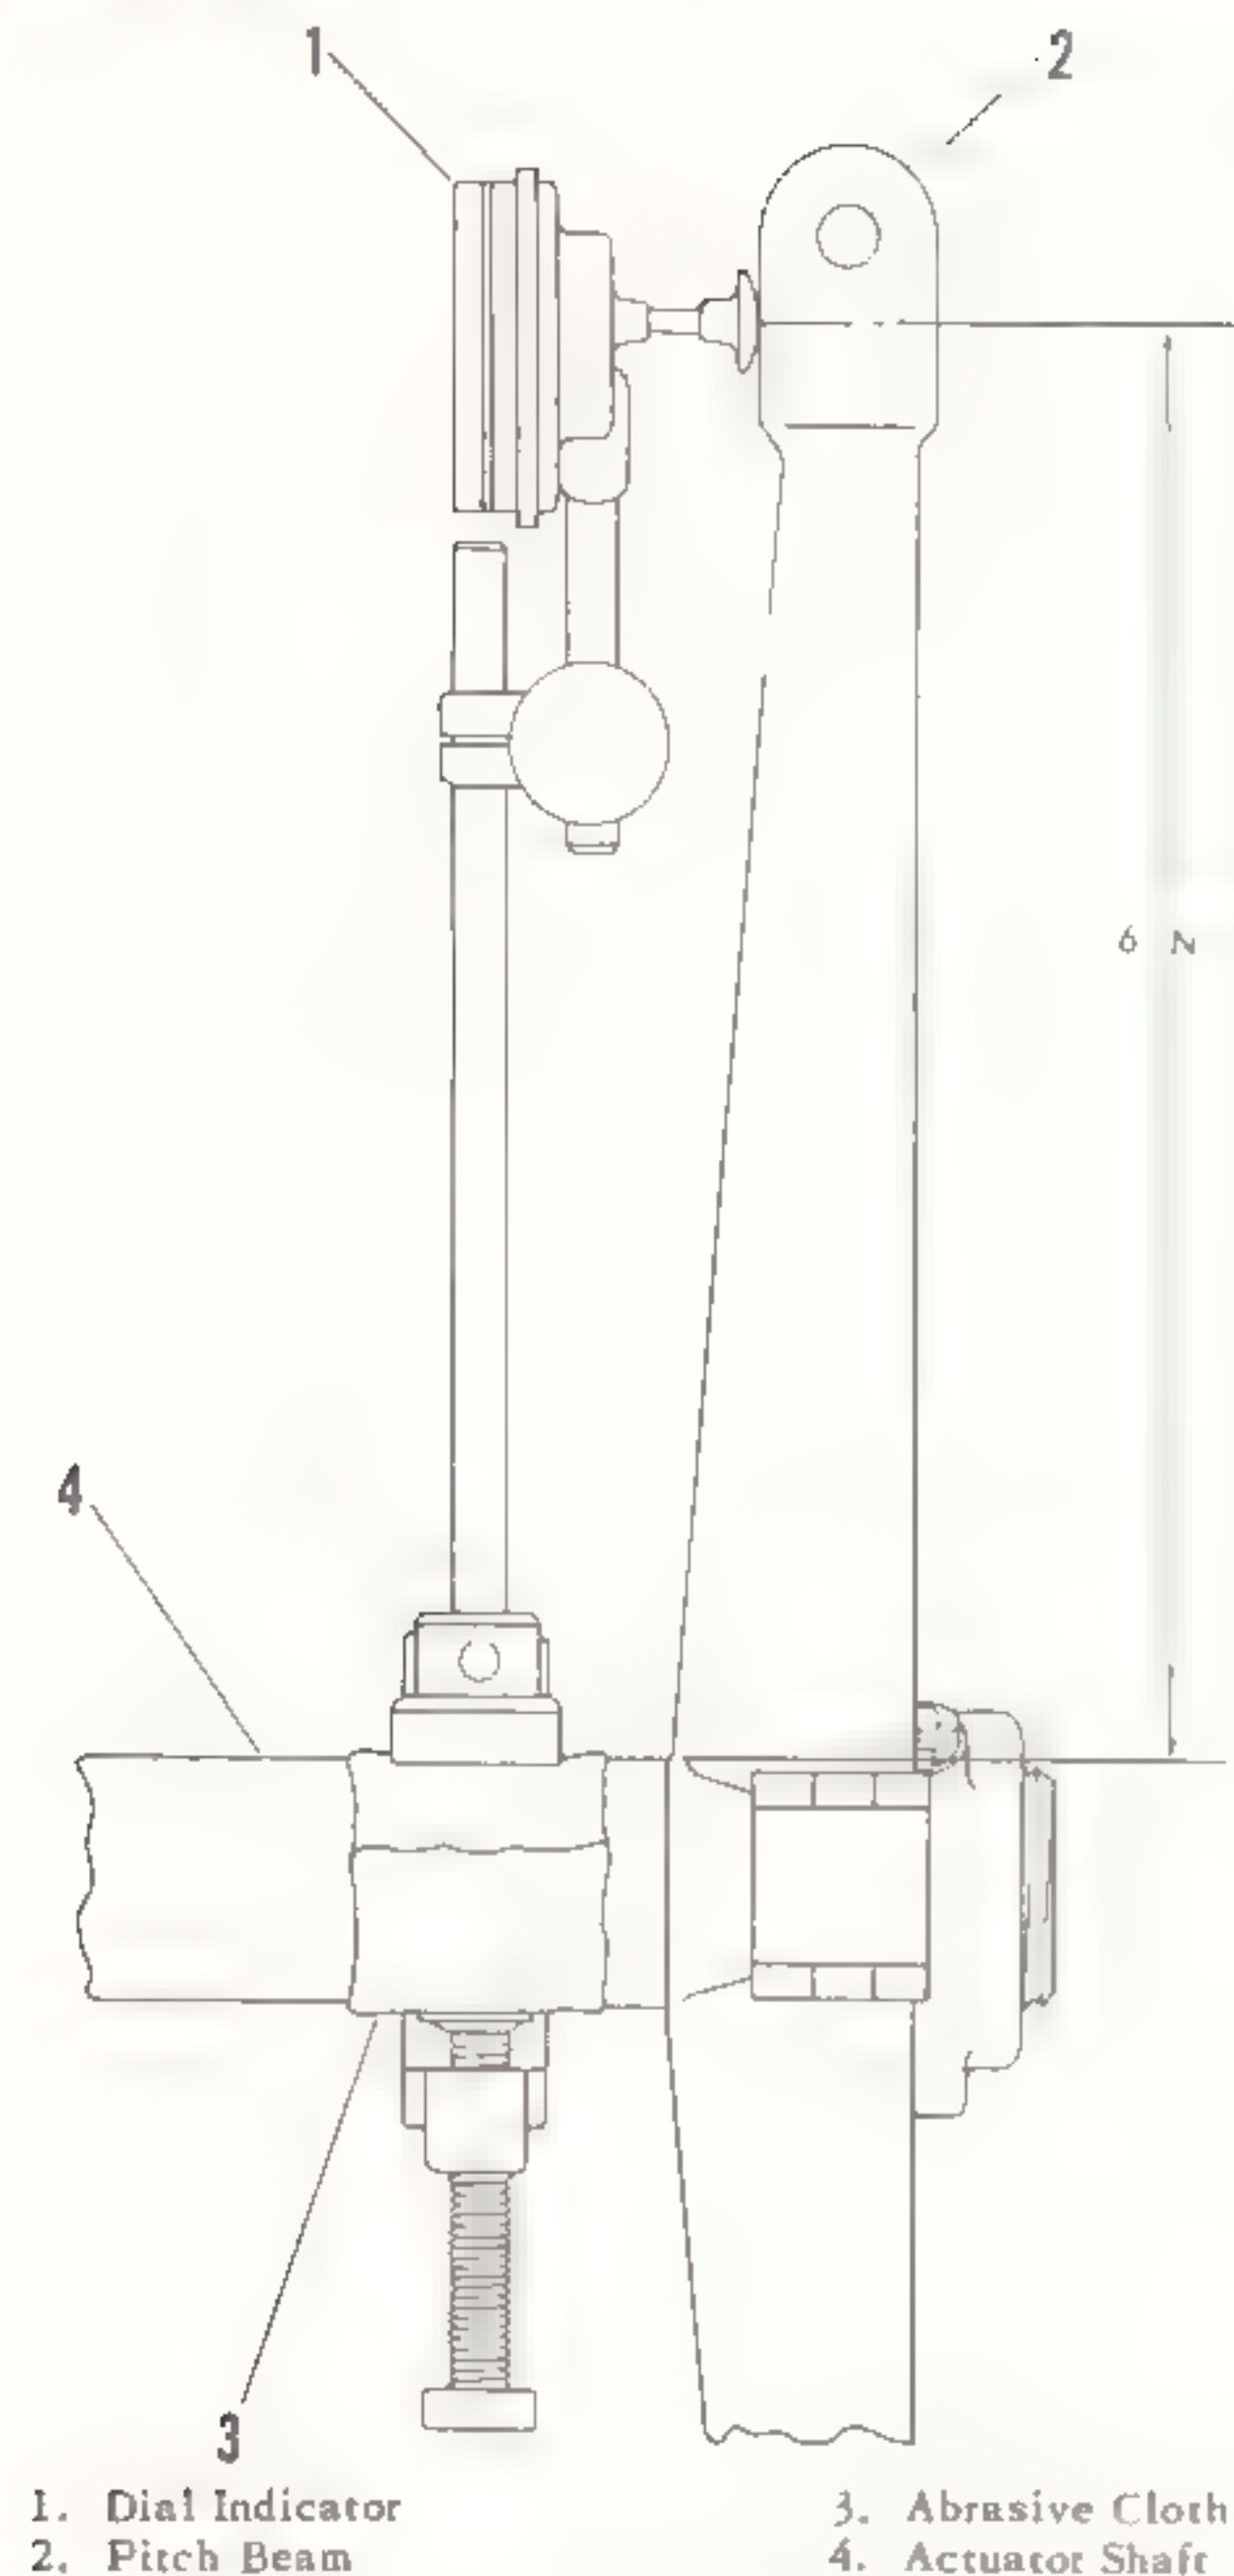

Figure 7-22. Measuring side play of pitch beam
(1) Clamp dial indicator (1, figure 7-22) to actuator shaft (4) and extend it to a point of forked end of pitch beam (2) 6 inches from surface of actuator shaft. Loosen and slide boot on actuator shaft to provide space for clamping dial test indicator.